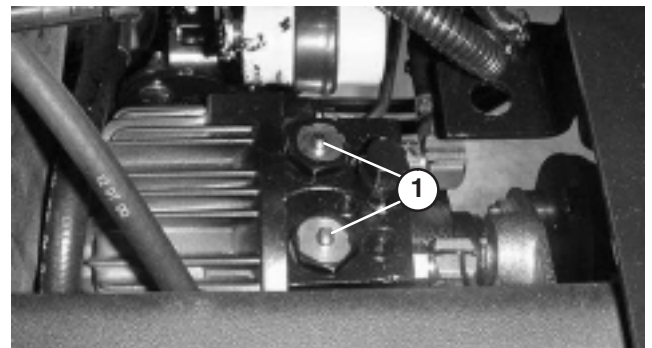

Figure 24
2. Depress and hold the pins located in the center of the two (2) check valve assemblies in the top of the transmission (Fig. 24) while pushing or towing the machine.
Apply a liberal coating of grease to the check valve pins once each year (Fig. 24). Also grease the bearings in the rear axle every 500 hours, or yearly, whichever comes first (not shown). The bearing and bushing lubrication points are: